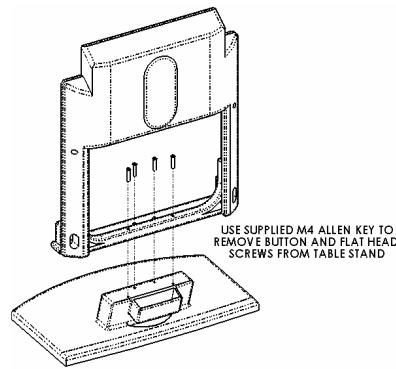
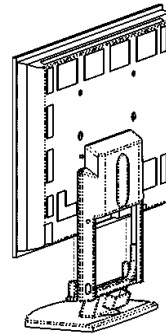

Figure 6
Figure 7
- Secure subwoofer to back of display by sliding uprights into holes in display (see Figure 6 & Figure 7).